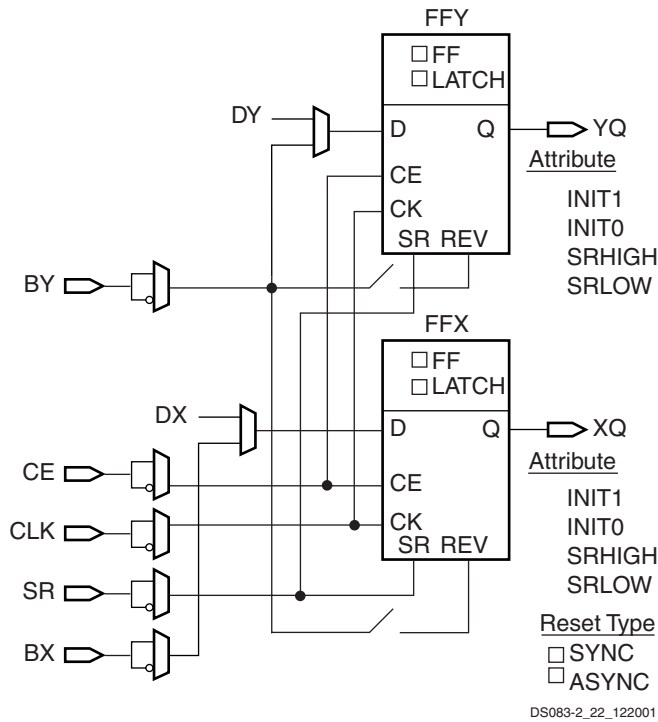

Figure 23: Register / Latch Configuration in a Slice
In addition to clock (CK) and clock enable (CE) signals, each slice has set and reset signals (SR and BY slice inputs). SR forces the storage element into the state specified by the attribute SRHIGH or SRLOW. SRHIGH forces a logic 1 when SR is asserted. SRLOW forces a logic 0. When SR is used, an optional second input (BY) forces the storage element into the opposite state via the REV pin. The reset condition is predominant over the set condition. (See Figure 23, page 22.)